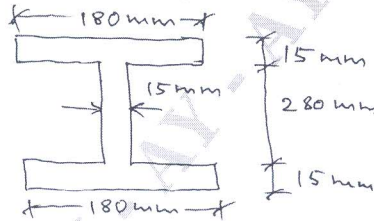

Fig.Q8(b)
b. A beam with I-section as shown in Fig.Q8(b) is subjected to a bending moment of 120 kNm and a shear force of 60 kN. Sketch the bending stress and shear stress distribution.